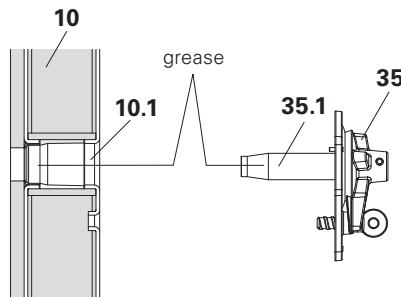

Fig. A5.04a
- Grease tie holes (10.1) in panel (10) and sleeve (35.1) of the Swivel Nut MX 18 (35). (Fig. A5.04a)